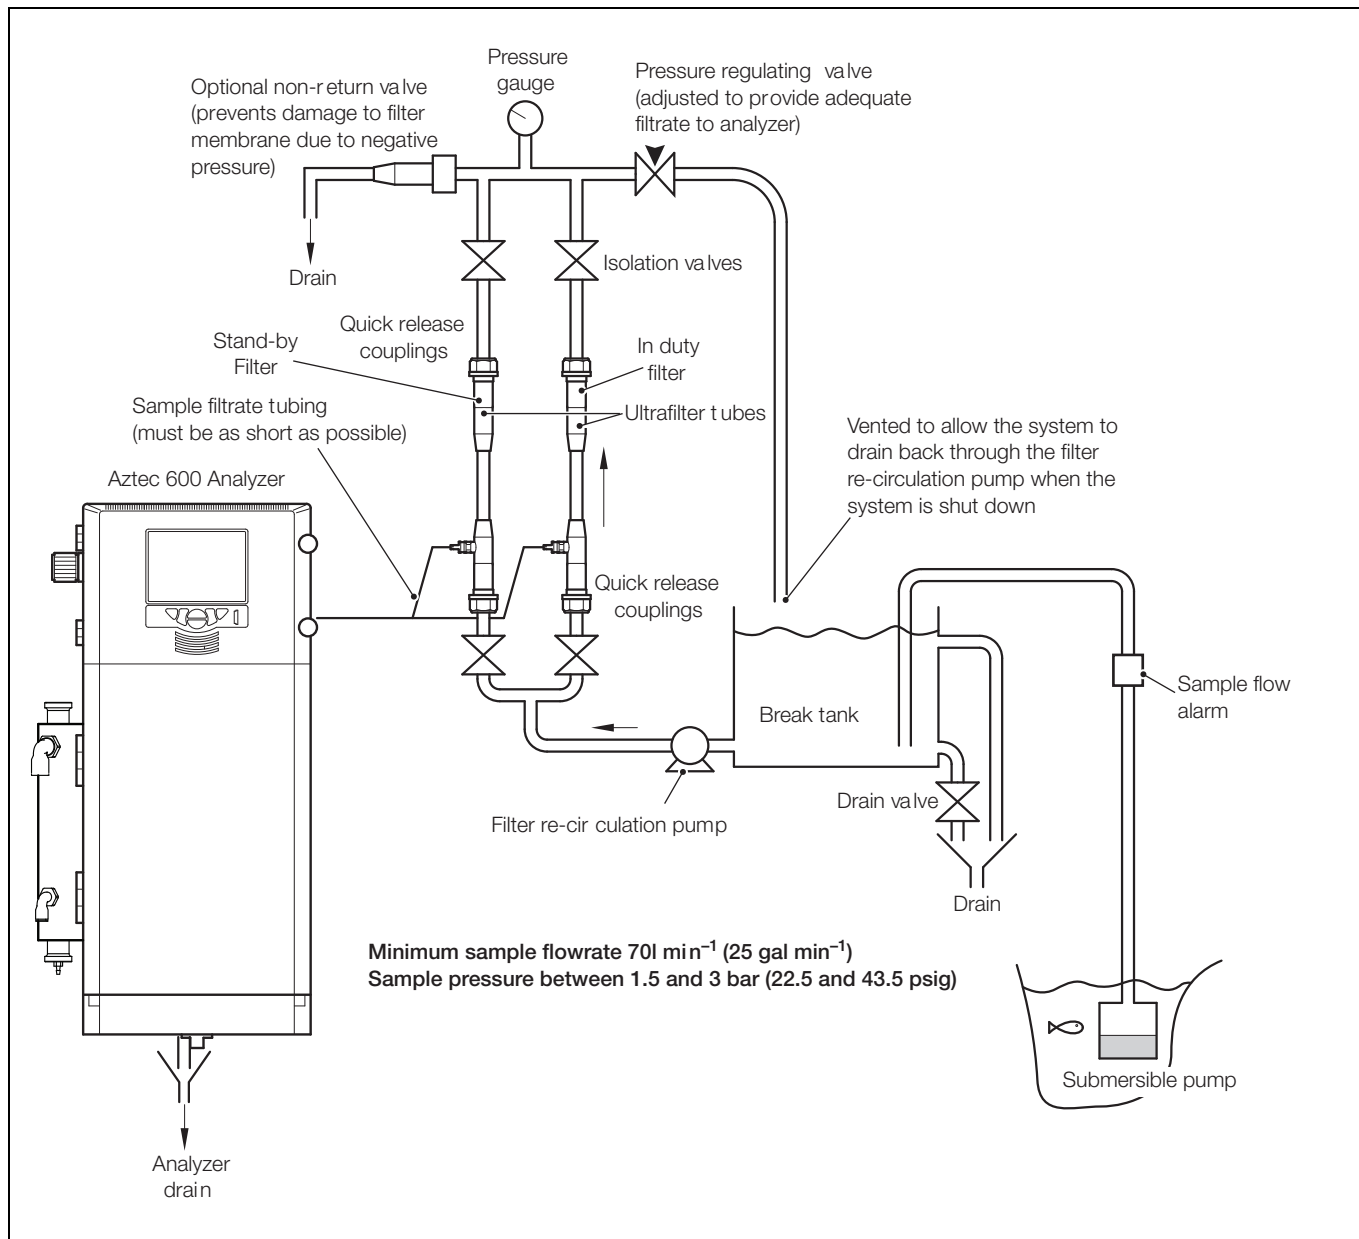

Fig. 2.1 Typical ultrafilter installation
A typical installation is shown in Fig. 2.1. This includes an optional dual filter arrangement (i.e. one in service and one in standby) and a two stage pumping system which is required when the sample has to be pumped over large distances or where the sample has to be lifted a long way up to the analyzer.
10. In systems without a siphon break, fit a non-return valve (see Fig. 2.1) to avoid the possibility of creating a negative pressure when the sample pump is switched off and the system drains down. If the line pressure falls below atmospheric, the membrane will be pulled away from the inner support tube and damaged. The valve acts as an air bleed valve to equalize the pressure.